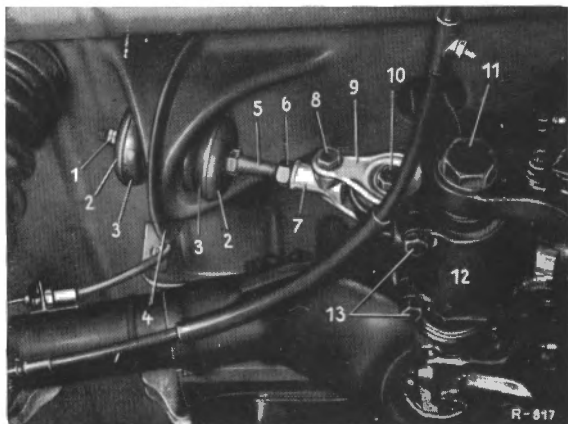

Fig. 35-1a/1
Note: In order to remove the rear axle or to replace the rubber mounting in the support of the rear axle suspension only remove the front link (9) after loosening the hexagon screws (8) and (10). It is not necessary to remove the cross strut (5) with the rubber buffers and the rear link (7) (Fig. 35-1a/1).